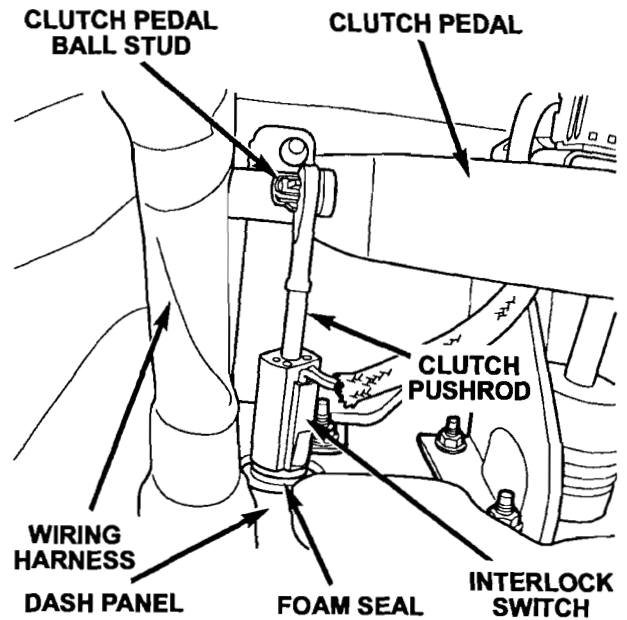

Figure 1 – Under Dash View
1. Disconnect the clutch pedal pushrod from the clutch pedal pivot ball stud (Figure 1).